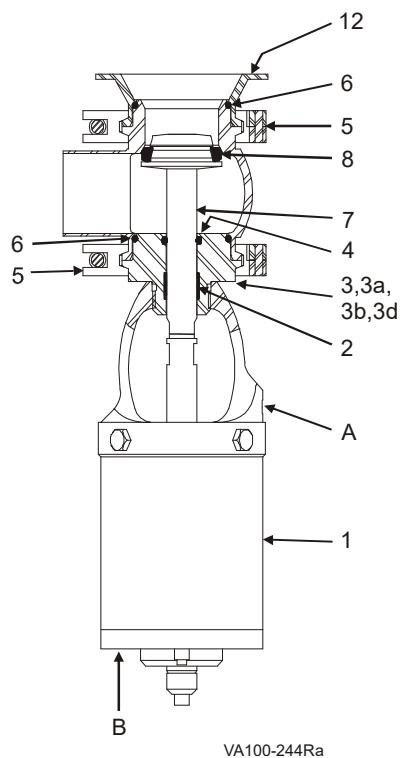

Figure 20: W64R/W84R Tank Outlet Valve
1. Remove the body/tank flange clamp (Figure 20, item 5) and remove the valve from the tank flange.
4. Remove the body clamp (item 5) and body from the adapter (item 3).
5. Using 5/8-inch wrench flats on the stem, unscrew and remove the valve stem (item 7).
6. Replace the seat ring (item 8) as needed. See "Seat Replacement" on page 37.
7. Unscrew the adapter (item 3) from the yoke.
8. Remove the body O-ring (item 6) and stem O-ring (item 4); replace as needed.
9. Inspect and replace the PTFE bearing (item 2) as needed.